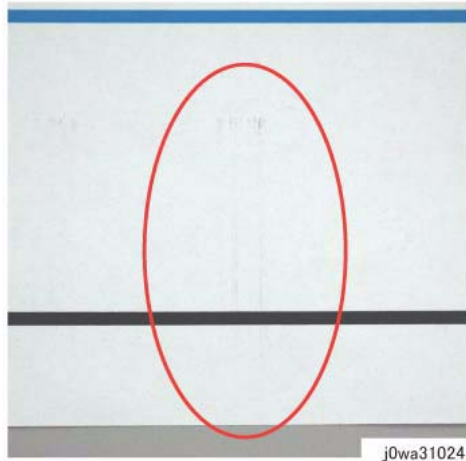

Figure 1 Color Lines Defect Sample
1. Check customer print to verify presence of paper dust in between the Intermediate Belt Transfer and the Transfer Belt Cleaner Assembly blade as in Figure 1.